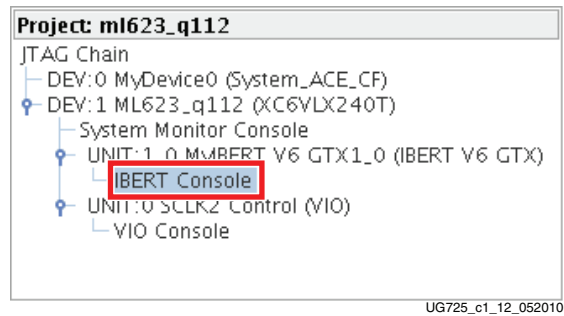

Figure 1-13: IBERT Console Selection
3. In the project panel, double-click **IBERT Console** (Figure 1-13).